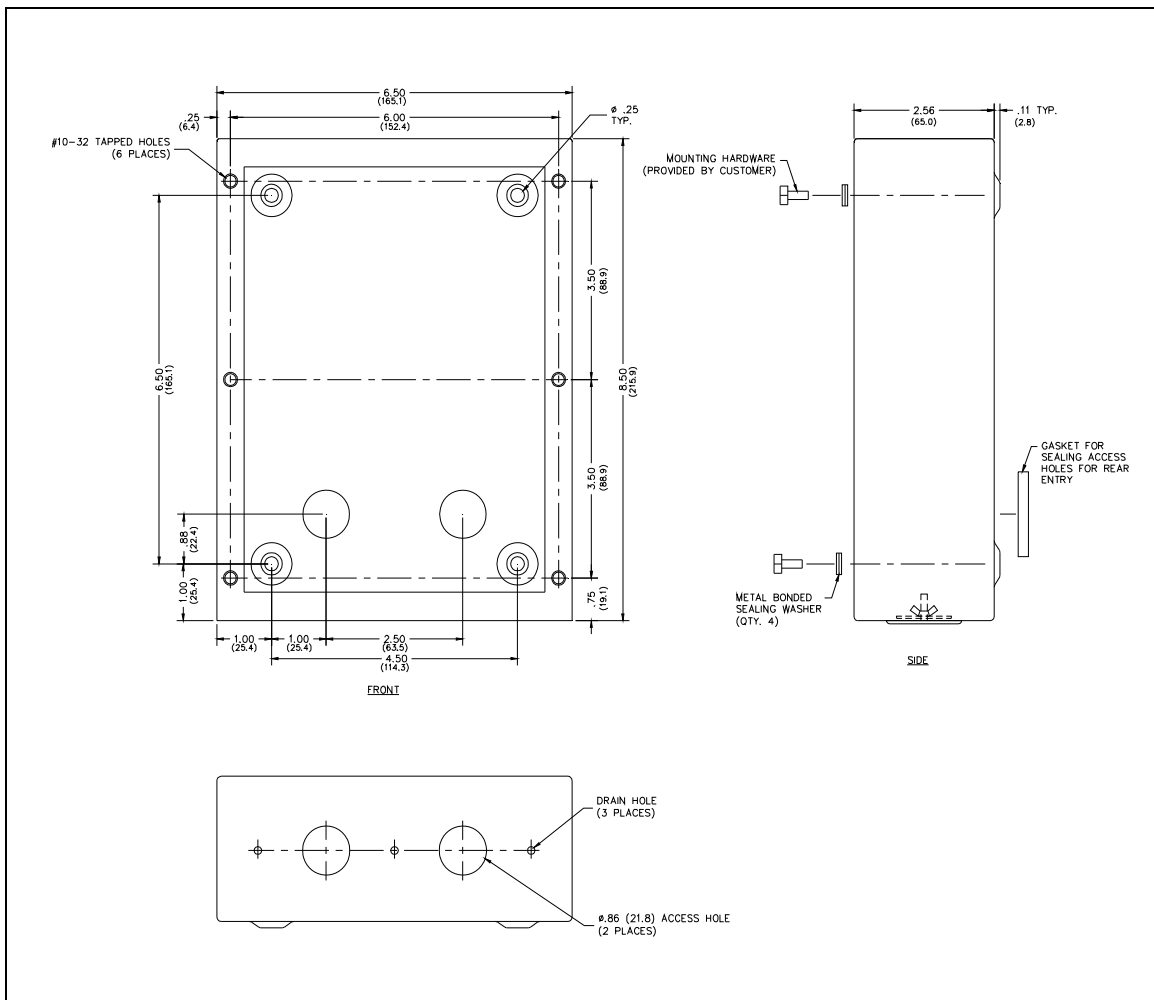

Figure 2. Model 238-001FS Surface-Mount Enclosure Outline
3. Mount the enclosure on a flat wall surface using the four ¼ inch (0.25 in) diameter mounting holes (see Figure 2).